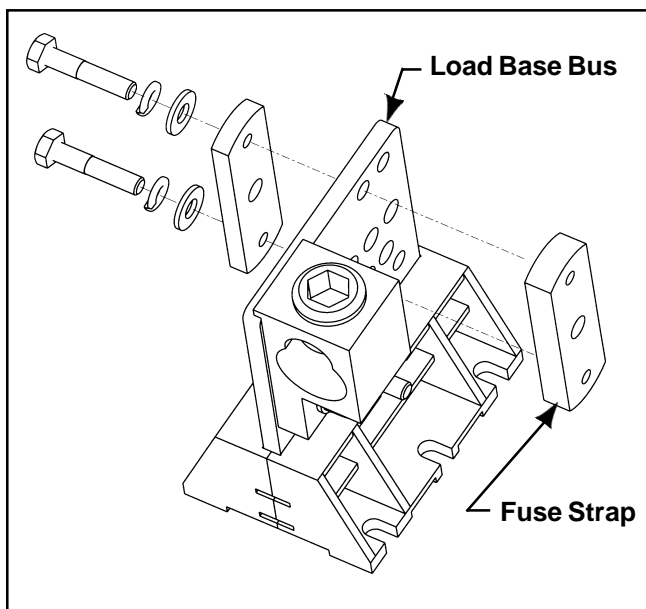

Fig. 1
3. Remove Load Base fuse clamp screws and Fuse Strap. See Figure 1.